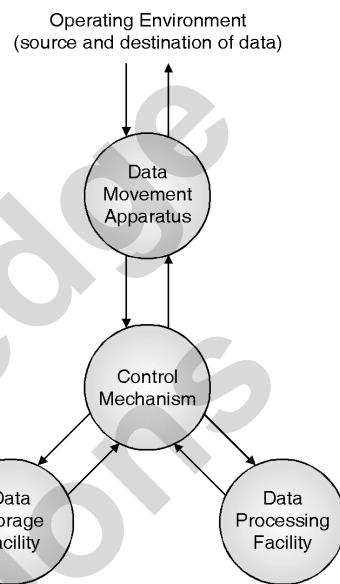

Fig. 9.2.4 : Functional view of a Computer
3. There can be various paths followed by the data as shown in the Fig. 9.2.4. They can be: the data may be taken into the processor from the input device, processed and then the result may be given at the output device; the data may be taken into the processor from the input device, processed and the result stored in memory; the data may be taken from memory, processed and the result given to output device; the data taken from an input device and given to an output device etc.
4. In Fig. 9.2.4, we can see that the computer is divided into three main components namely data storage facility, data movement facility and the data processing facility. These are the different functions can perform a computer.